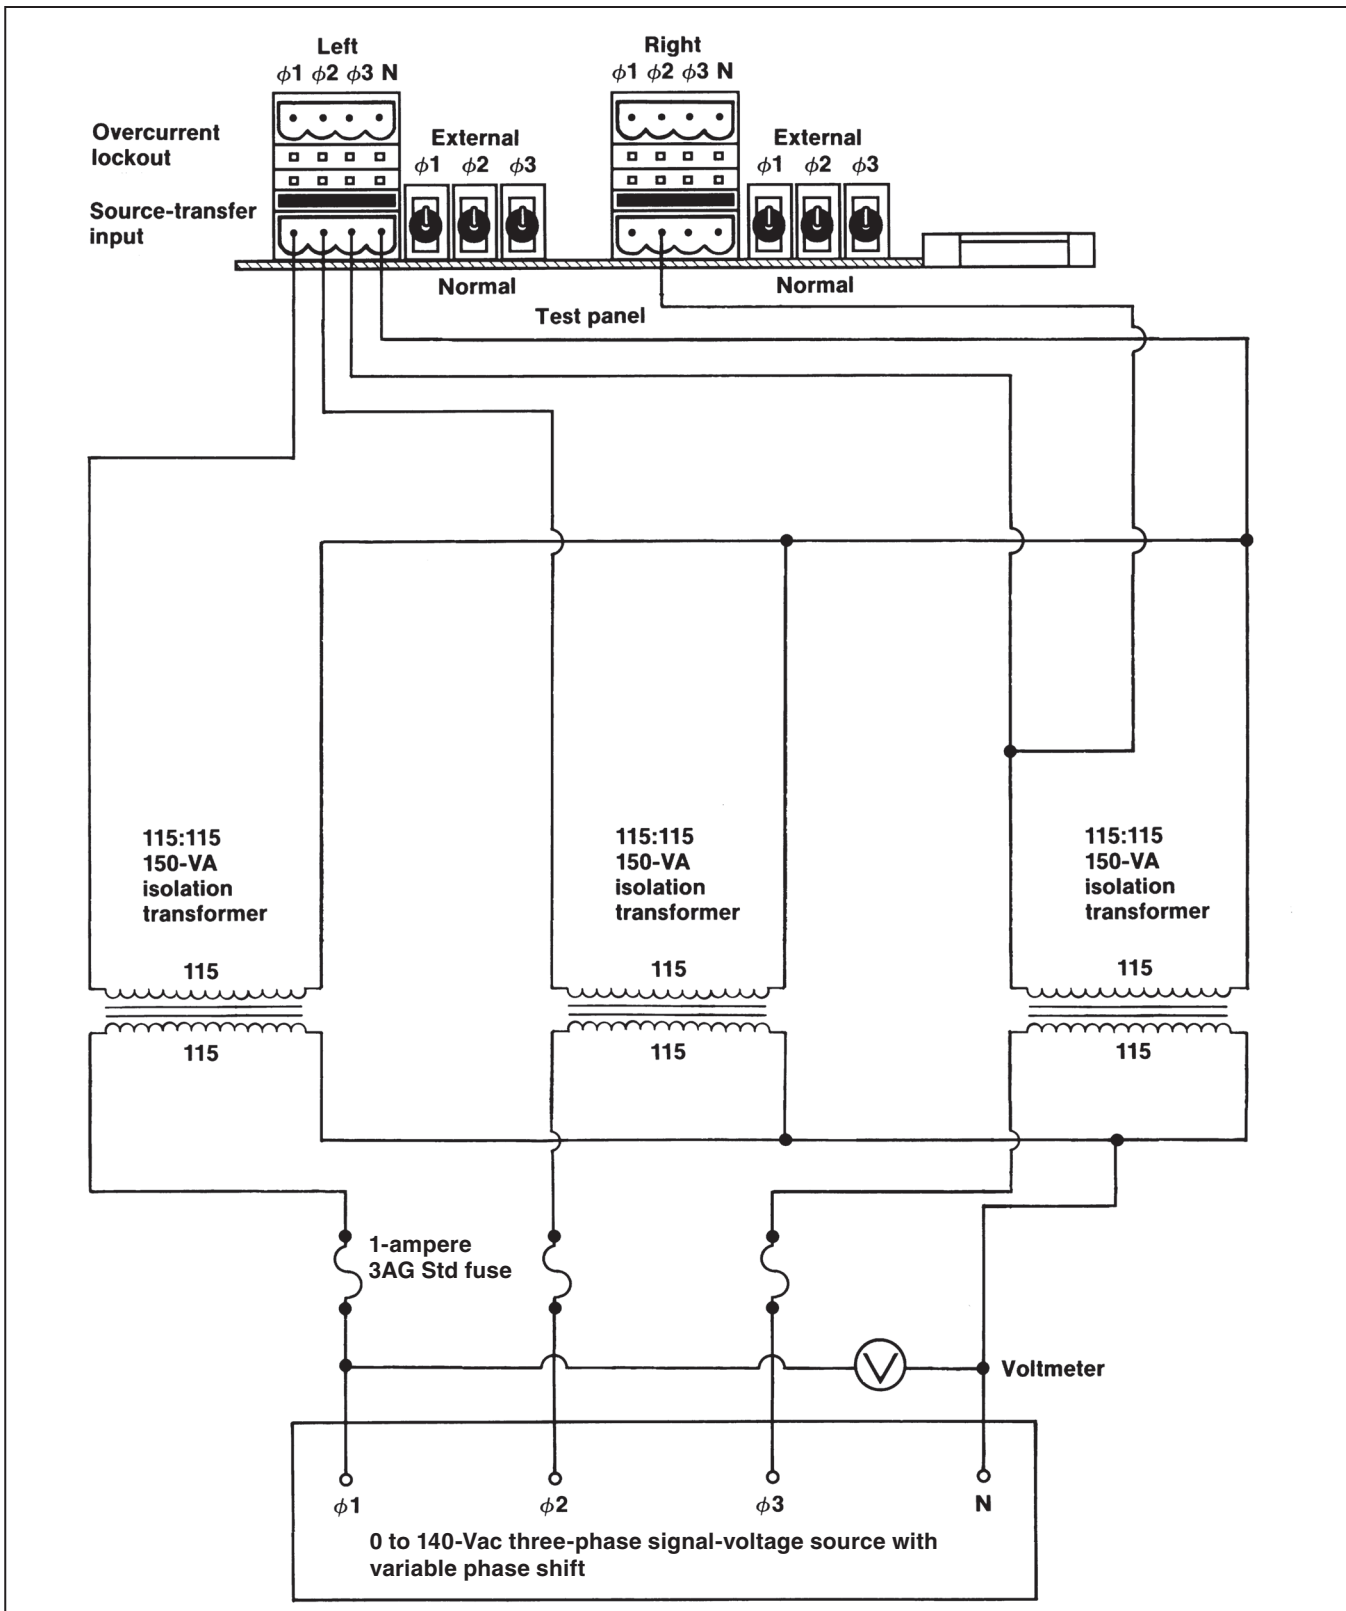

Figure 11. A three-phase source test-circuit connection diagram for weatherproof enclosure applications.
- STEP 4.** Place the external/normal selector switches on the test panel for the left source and the right source in **External** mode. See Figure 11 on page 26.
STEP 5. *For applications using three-phase voltage sensing:* If a 0 to 140-volt, 60-Hz three-phase signal-voltage source with variable phase shift is available, make up the three-phase source test-circuit connections as shown in Figure 11 on page 26.
If the three-phase source test circuit shown in Figure 11 on page 26 is used: Repeat Steps 11 through 15 for Phase 2 and then for Phase 3.
The steps in this testing section can be performed only if the three-phase source test circuit shown in Figure 11 on page 26 is used. *If a single-phase source test circuit is used, proceed to Step 23.*